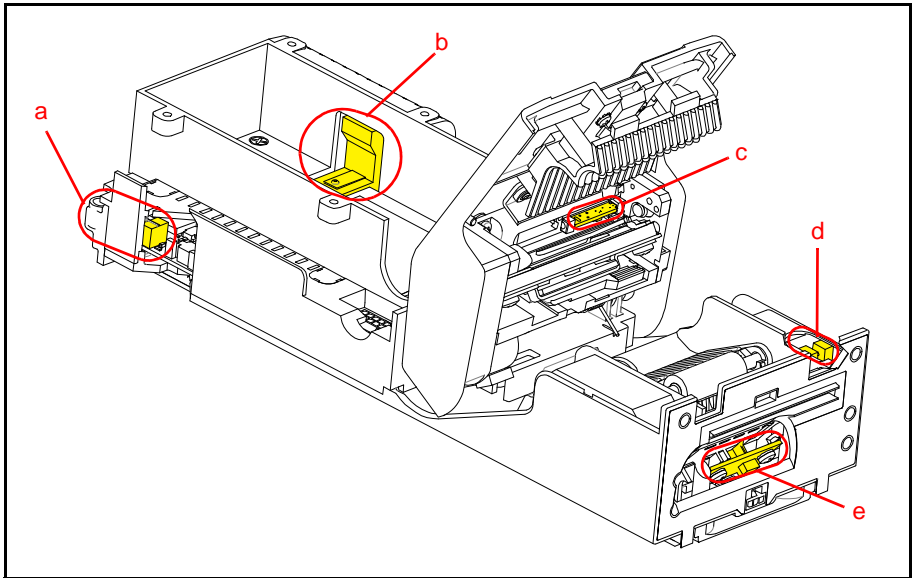

Figure 4 GEN5 Printer Sensor Locations
NOTE: GEN5 Printer Sensor Cleaning Methods are listed in Table 2 below. Refer to Figure 4 on the following page for Sensor locations.
2. Use a cleaning swab dampened with Isopropyl Alcohol to wipe clean the following Sensors (refer to Figure 4 on page 6):
- Printer Tray Sensor (Figure 4 a)
- Ticket Low Sensor (Figure 4 b)
- Lid Open Sensor (Figure 4 d)
- Ticket Taken Sensor (Figure 4 e)
3. Use non-flammable Compressed Air to clean the Paper Out (Index Mark) Sensor (refer to Figure 4 c on page 6).
- a) Cover the Ticket Taken Sensor (refer to Figure 4 e on page 6) with a Ticket.